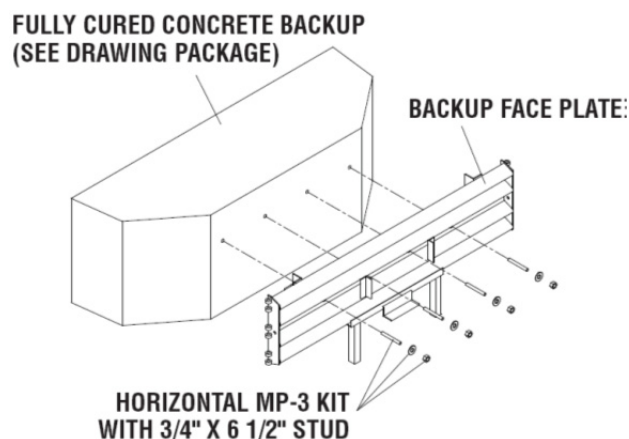

Figure 50
A) Concrete Backup Construction (Figure 50)